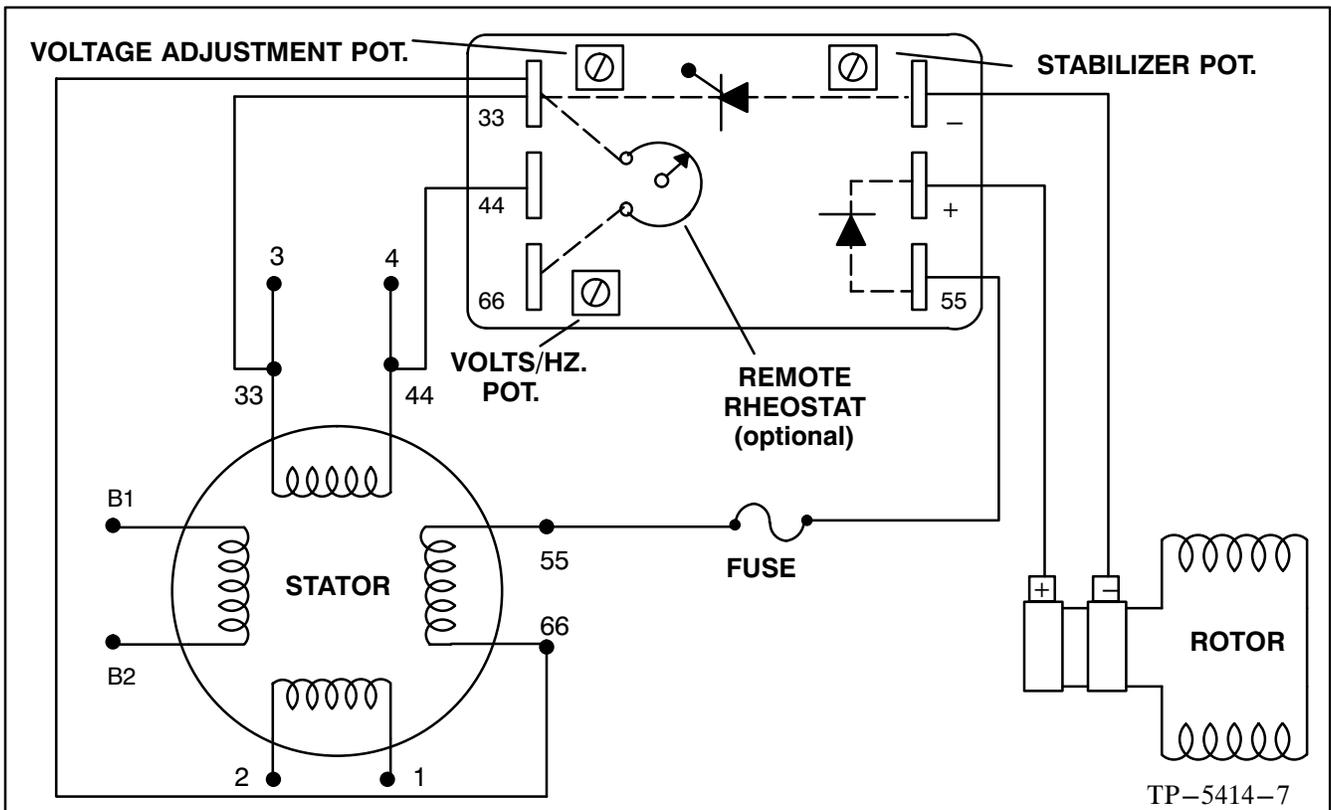

Figure 3. PowerBoost III Voltage Regulator (Early 7CKM-RV only)
*Some early 7CKM-RV with PowerBoost III voltage regulators may have a stator with a separate winding 55-66 where lead 66 and 33 are externally connected. See Figure 3 and NOTE below.